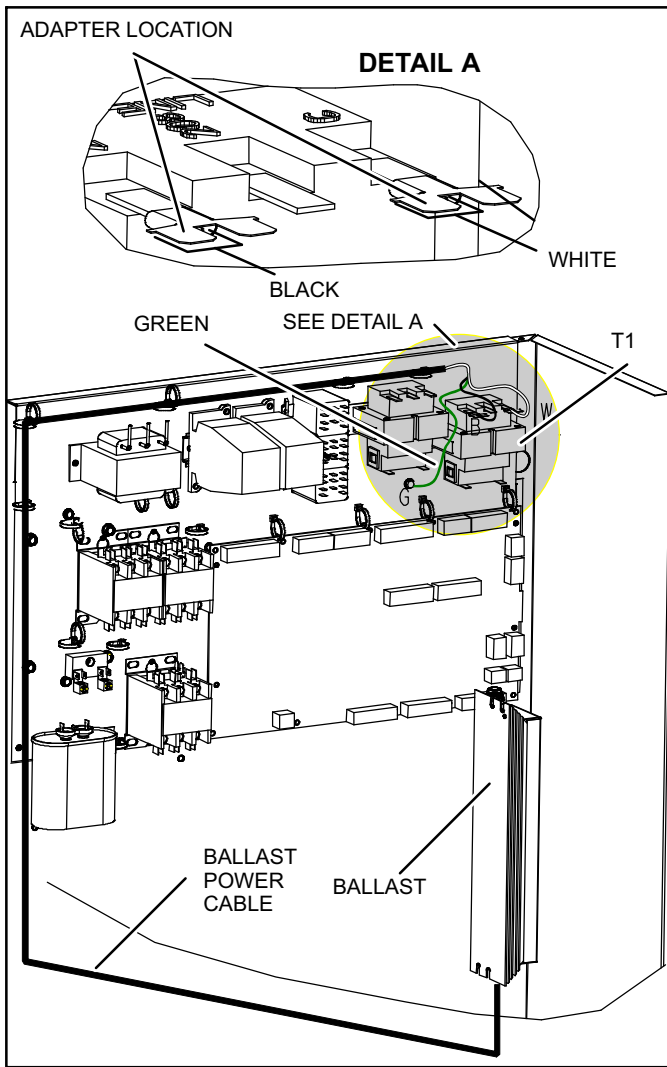

Figure 5. Connect cable to transformer T1 (230 Volt units)
A For all 230V rooftop models, connect the black and white conductors of the ballast power cable to transformer T1 using (2) quick-connect adapters included in the kit. Connect the green GROUND ring connector to the extruded hole on the panel (see figure 5).